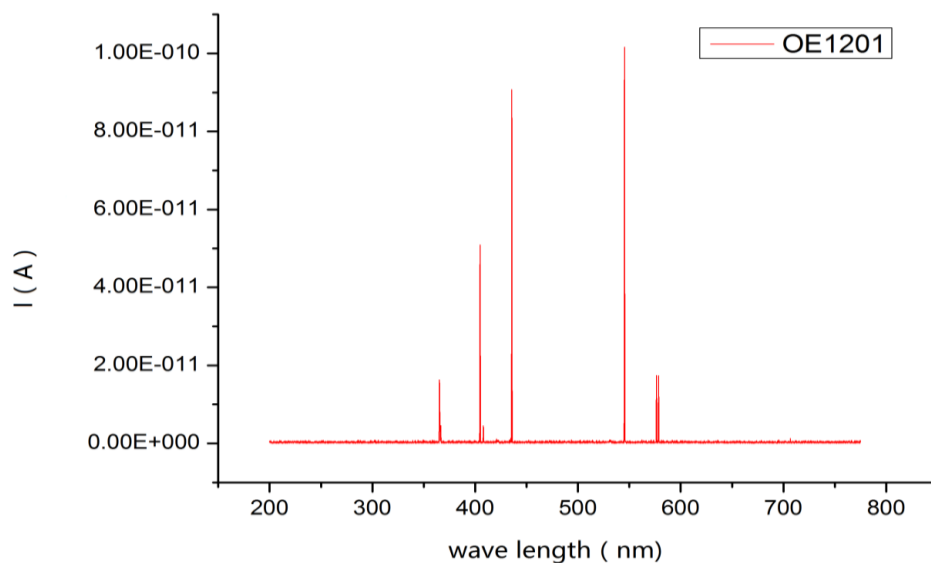

Fig.70 Measurements of the OE1201
4. Start the spectral measurement and collect data from the data collection platform. Then, you will get an uncalibrated spectral curve as is shown in Fig.70.